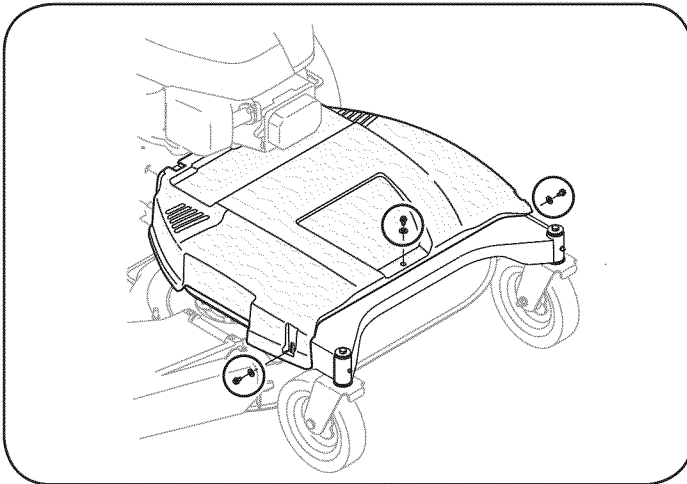

Figure 14
2. Remove the three screws and washers holding the cover to the frame, Figure 14.